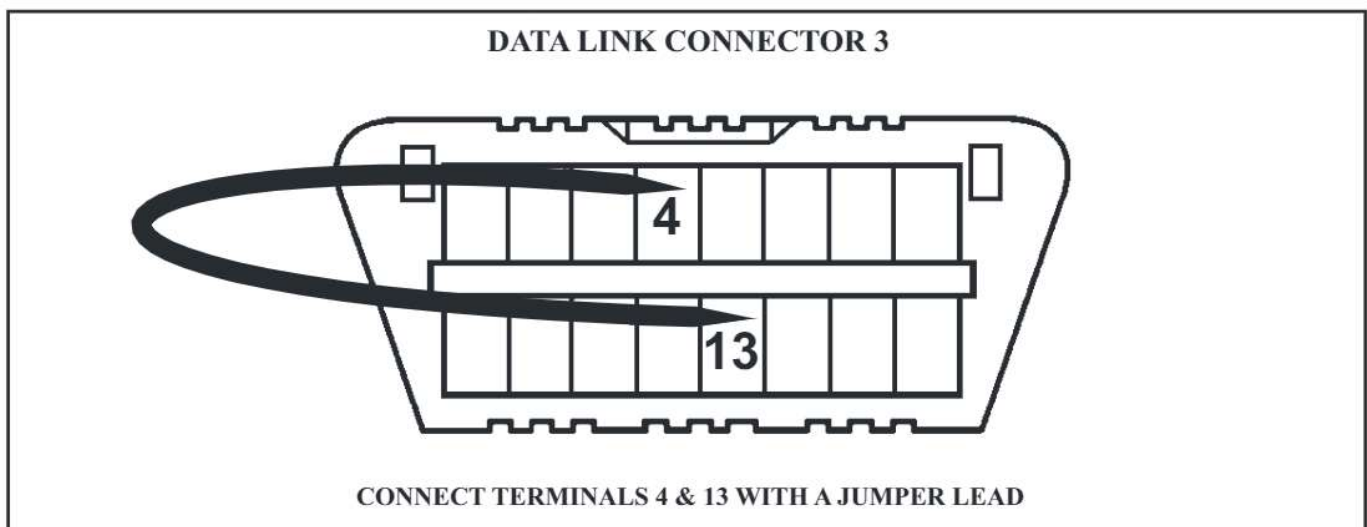

Figure 79
- 2 - Using a jumper lead, connect DLC3 terminals 4 and 13 as shown in Figure 79.